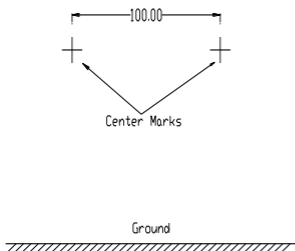

Figure 4
1. Mark two drilling hole center marks on the wall at a proper location. Make sure they are of the same height to the ground and have a distance of 100mm between them, equivalent to that between the holes of the AP (see Figure 4).